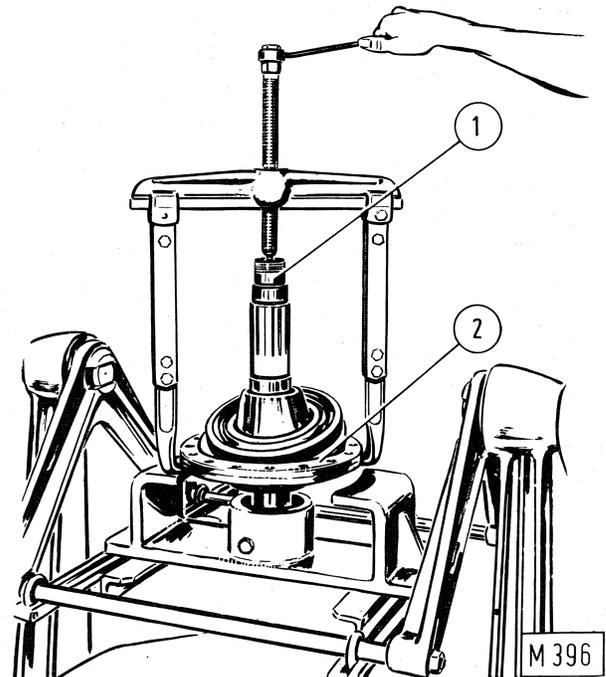

Fig. 2-7 - Removal of front end plate (2) from shaft (1).
- remove upper race and cage of bearing (13) and separate the front end plate (14) from the pinion shaft (4) using universal extractor (fig. 2-7);